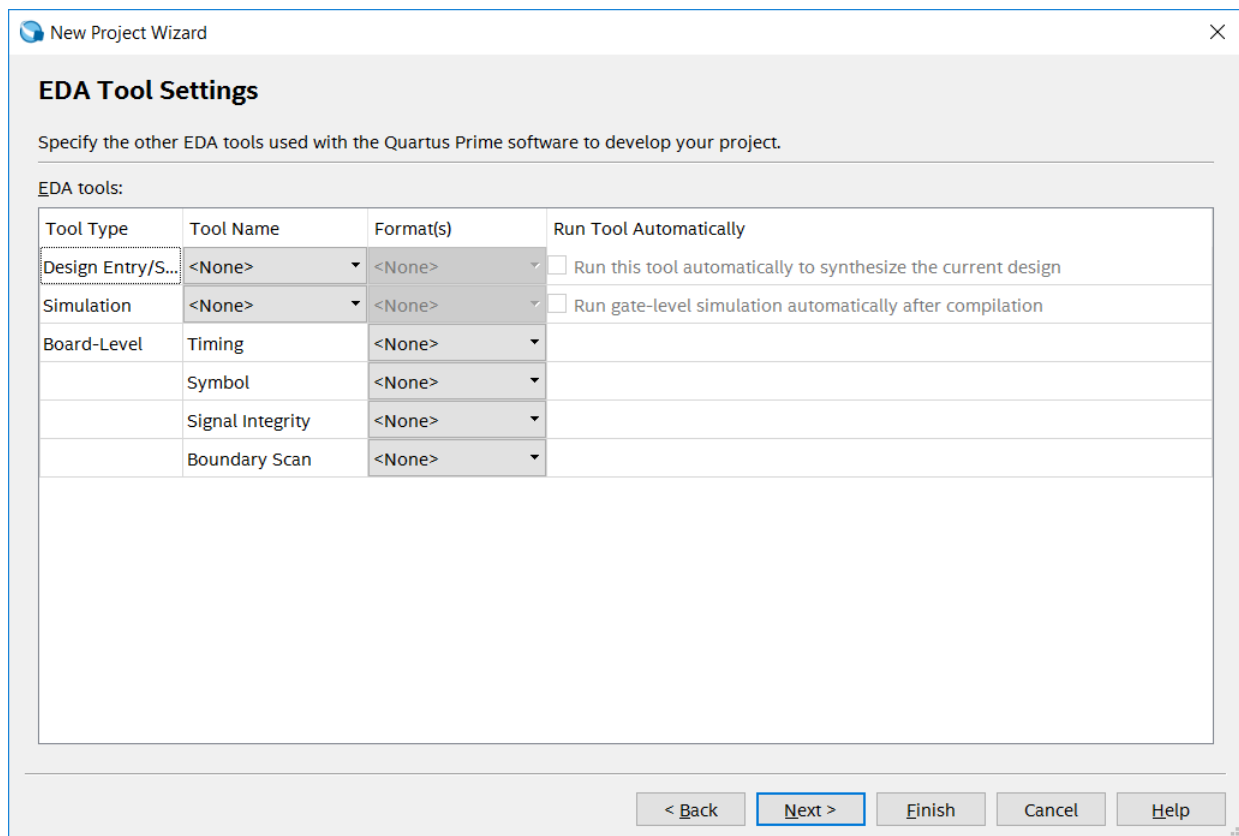

Figure 9. Other EDA tools can be specified.
5. We have to specify the type of device in which the designed circuit will be implemented. Choose the Cyclone® series device family for your DE-series board. We can let Quartus Prime software select a specific device in the family, or we can choose the device explicitly. We will take the latter approach. From the list of available devices, choose the appropriate device name for your DE-series board. A list of devices names on DE-series boards can be found in Table 1. Press Next, which opens the window in Figure 9.